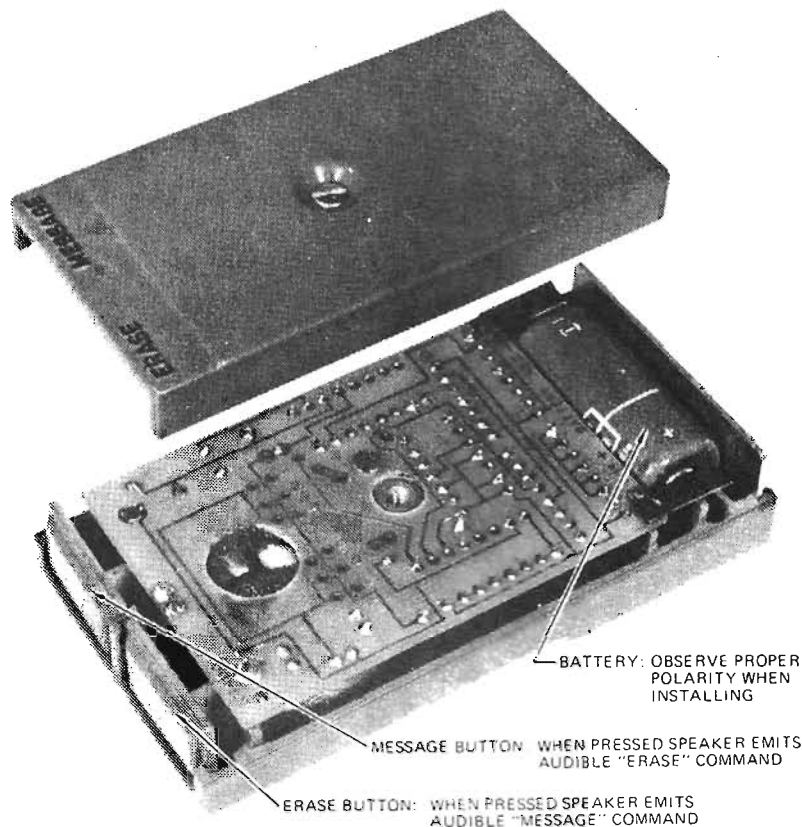

Fig. 7—Pocket Code, Model 1000
5.01 The Remote AutoMatic TelePhone incorporates all of the standard features of The AutoMatic TelePhone. In addition, The Remote AutoMatic TelePhone allows a distant caller to receive recorded messages over a telephone line. The caller activates The Remote AutoMatic TelePhone with two specially coded commands ("message" and "erase") from a hand-held transmitter, the Model 1000 PC Pocket Coder (Fig. 7). After receiving the recorded messages over the telephone line, the caller may either erase the messages or leave them intact and record new messages.
6.01 To check the operation of the Pocket Coder, press the MESSAGE and ERASE buttons (see Fig. 7) and verify that both cause a command tone to be audible at the speaker. The Pocket Coder is powered by a 15-volt battery (Eveready No. 504 or equivalent). Normal battery life is one year and replacement is the customers responsibility.